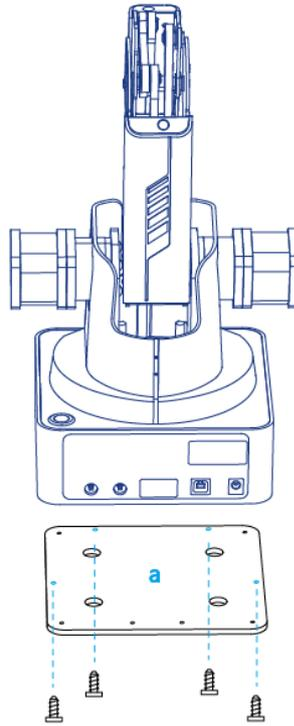

Figure 5.31 Fix plate a
- Step 1** Mount Dobot Magician on the plate a with four M3*10 countersunk head cap screws (Make The counter bore of plate a outward), as shown in Figure 5.31.